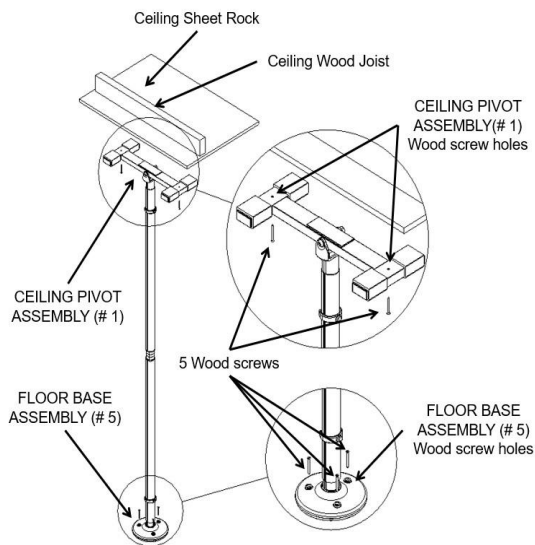

FIGURE 6
6. If the ceiling is sloped relative to the floor, CEILING PIVOT ASSEMBLY (# 1) will need to be secured to the Ceiling Wood Joist with included WOOD SCREWS (# 9), as shown in Figure 6.
If the ceiling is NOT sloped relative to the floor the WOOD SCREWS (# 9) are optional; however, if CEILING PIVOT ASSEMBLY (# 1) and/or FLOOR BASE ASSEMBLY (# 5) move after installation is complete, use WOOD SCREWS (# 9) to secure the product to the floor and ceiling as shown in Figure 6.
Linoleum or carpeted floors: If the Floor Base Assembly (# 5) is to be mounted on either Linoleum or carpeted floors, place the WOOD SCREWS (# 9) through the Floor Base Assembly (# 5) holes and secure directly into the wood floor as shown in Figure 6.